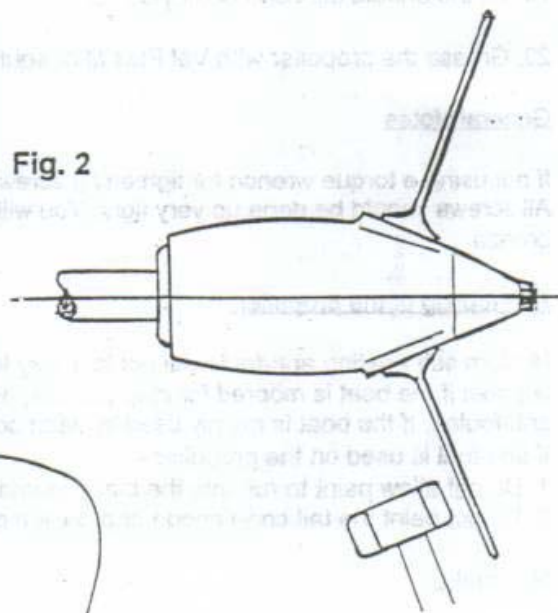

Fig. 2
- 18. Fit the remaining six cap screws and tighten lightly. It should be as free as in the pre-installation check. If not, tap the blades with a soft face hammer as it should be as in fig 2 until movement is free than tighten the screws securely to